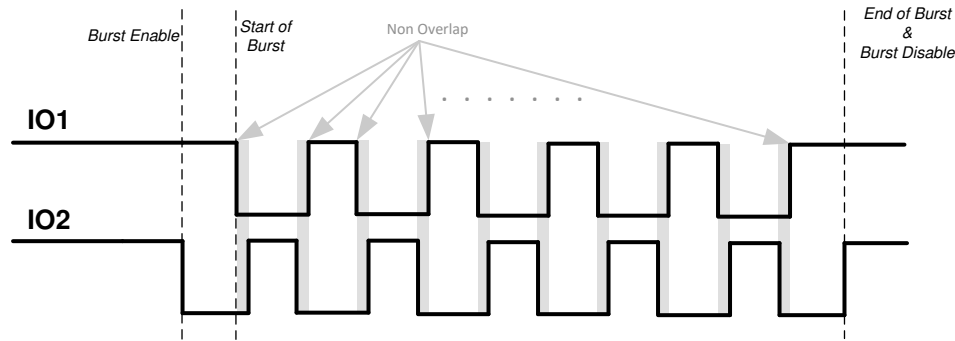

图 7-3. IO\_MODE 2 Description
- **IO\_MODE = 2:** In this mode both IO1 and IO2 are used to control OUTA and OUTB. The burst enable is triggered when either IO1 or IO2 transitions from high to low. Start of burst (OUTA and OUTB changing state) happens only at the next falling edge of IO1. 图 7-3 shows the case where a high-to-low transition on IO2 is used to enable the burst. A burst is emulated when IO1 and IO2 are toggled in a non-overlapping sequence. After the start of burst, the state of OUTA and OUTB pins are determined by IO1 and IO2 pins. During a burst, if there is a condition where both IO1 and IO2 are high for more than half period of the internal clock  $f_{INT\_CLK}$  (caused by differential delays due to PCB parasitics or MCU code), an end of burst and burst mode disable will be triggered. Any falling edge just after this condition will be ignored to toggle OUTA and OUTB as it would be considered as a new burst enable signal. A systematic condition of overlap can cause a continuous end of burst trigger such that OUTA and OUTB do not toggle even though IO1 and IO2 are toggling. TI recommends no overlap or minimum non-overlap between the IO1 and IO2 signals when measured at the pins. BURST\_PULSE has no effect in this mode.